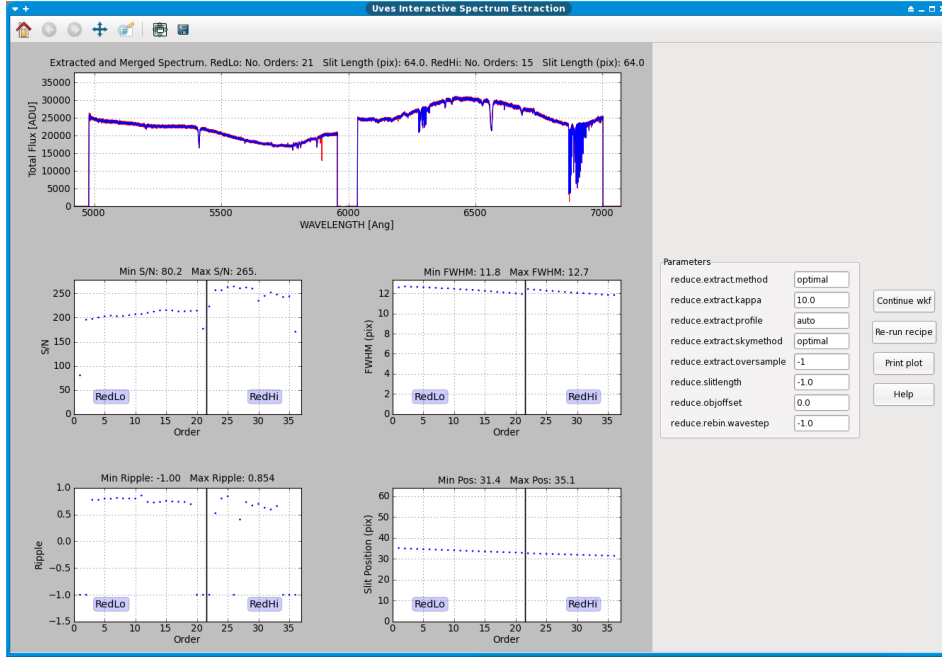

Figure 13: *The interactive window for the Spectrum Extraction actor for the first LoSO in the data supplied with Reflex 1.1.*
- Spectrum Extraction:** In Figure 13, we show the interactive window associated with the `Spectrum Extraction` actor, which executes the UVES pipeline recipe `uves_obs_scired`. This pipeline recipe performs the extraction of the science object spectrum using optimal extraction (Horne 1986), automatically selecting an analytical spatial profile (Gaussian or Moffat) in the case of low S/N spectra ($S/N < 10$) or an oversampled empirical spatial profile otherwise, and automatically determining the degrees of the low-order polynomials involved in the extraction process. The top plot in the interactive window shows the extracted and merged spectrum of the science object (blue), and the plot below this shows the flux-calibrated version. Error bars on the spectrum are plotted as 1-sigma limits in red.